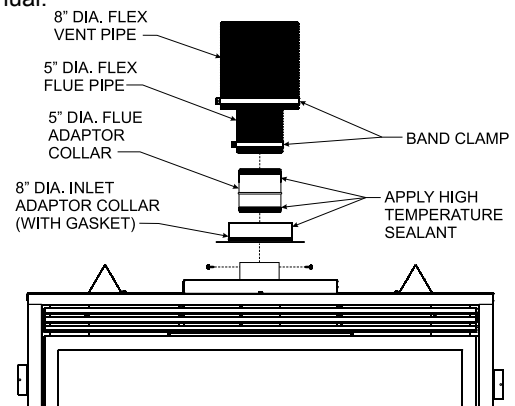

Figure 61
9. Apply sealant to the outside of the flue pipe adapter and connect to the flex flue pipe. Then insert the adapter into the fireplace flue. Secure flue adapter to the fireplace flue with a minimum of two screws provided. **See Figure 61.**